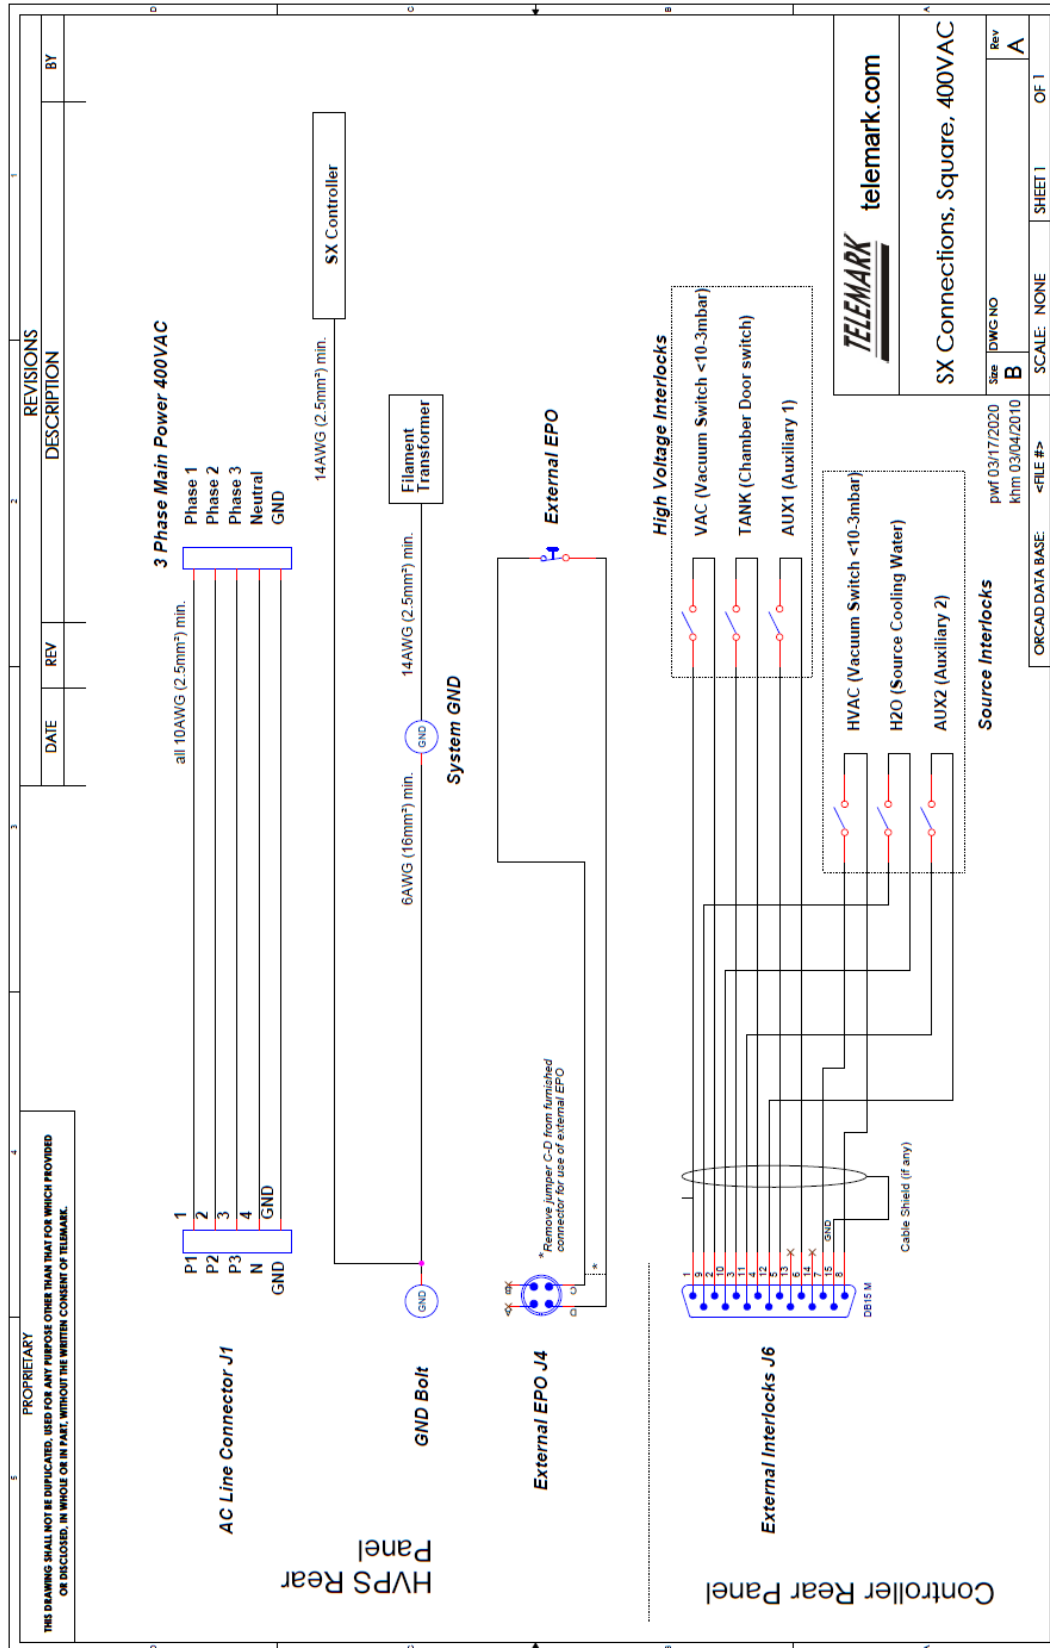

Figure 9-4, Connections SX series 400VAC Square Version
- Figure 9-4 Connections SX-4/6/8/10/12, Square Connector, 400VAC